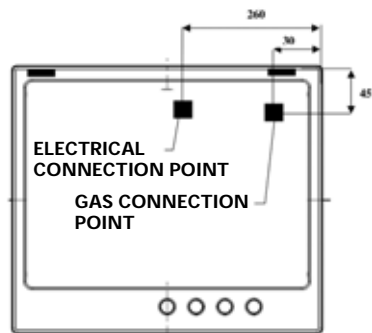

Fig. 1
3. Before installing the hotplate consider the location of the gas supply and routing the gas line. (Refer Fig. 1).